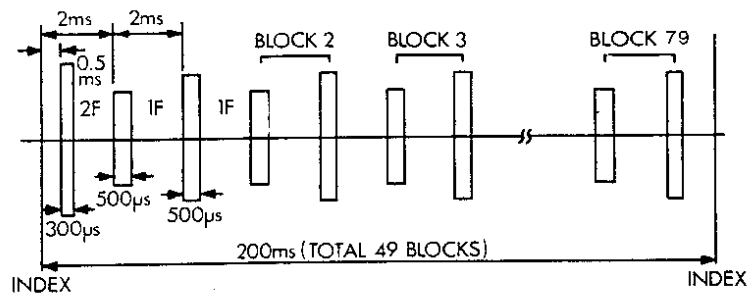

Fig. 1 Waveform of T39, 119 (Servo pattern)
1. Radial adjustment by use of Track 39, 119. Fig.1.	○